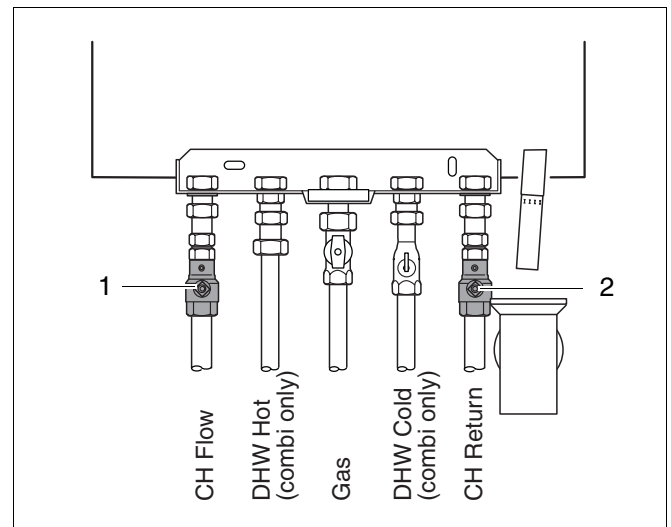

Fig. 3 Maintenance shutoff valves
- If necessary open the CH flow and CH return maintenance valves (fig. 3, item 1 and 2).